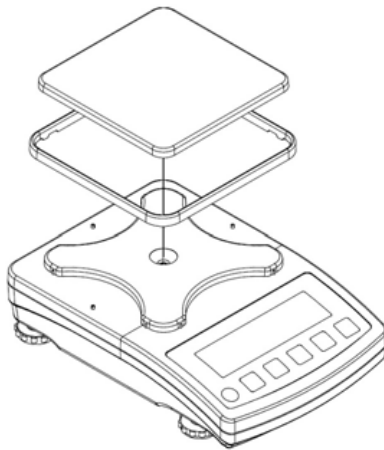

Fig. 4. Balance installation
3. Install the weighing pan and anti-draft shields in accordance with fig.4.